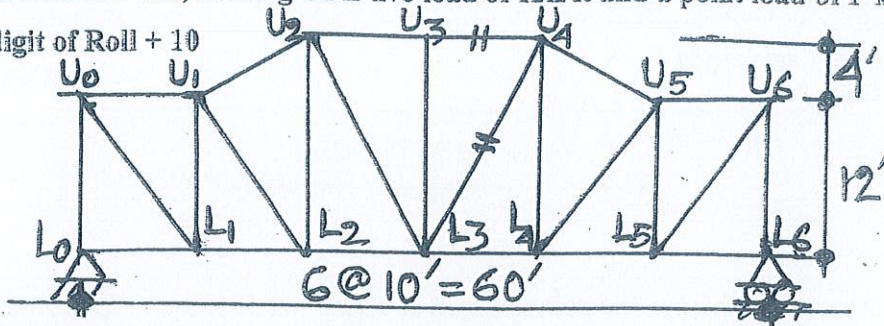

Fig. 3
5. Draw the Influence line for the force in U3U4 and U4L3 of the truss in Fig. 3 Calculate the maximum value of tension and/or compression in the bars for the combination of UDL dead load of 8 k/ft, moving UDL live load of 12k/ft and a point load of P kips, where P = Last digit of Roll + 10 (12)